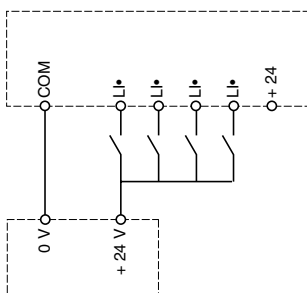

Figure 8: External Supply Wiring Diagram
- (1) Line reactor if required.
- (2) Fault relay contacts for remote signalling of the drive controller state. Contact state is shown with the drive controller deenergized or faulted.
- (3) User installed wiring for using LI2, LI3, and LI4 with internal +24 V power supply. When using +24 V external supply, connect the 0 V to the COM terminal. Do not use the +24 V on the control board, but connect logic inputs to external +24 V. See Figure 8 on page 29.
- (4) K13 and K14 are open terminals available for customer use.
- (5) Use dynamic braking module VW3A58701 with drive controllers ATV58EU09M2FZU and U18M2FZU if dynamic braking is required. See Appendix A for the available braking resistor kits.
- (6) Manual speed potentiometer and start-stop push buttons are factory-installed in the enclosure cover. There is enough space in the cover to install one more 16-mm operator.
- (5) See Appendix A for the available braking resistor kits.
An external 24 V power supply can be used for the logic inputs. In this case, the +24 terminal on the drive controller is not used. Figure 8 shows the wiring diagram when an external supply is used.